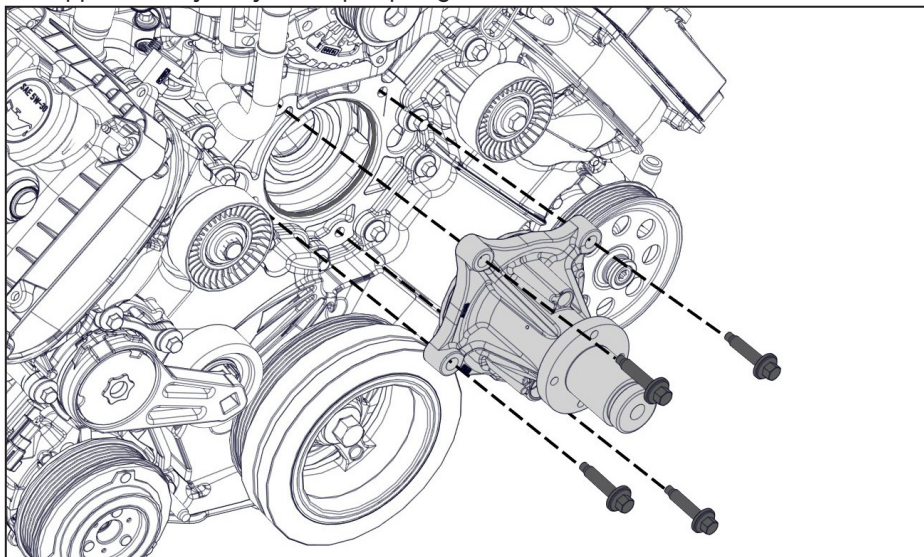

Figure 6 — Install water pump
- ☐ Lubricate the new water pump O-ring with clean engine coolant and install the supplied heavy-duty water pump (Figure 6).